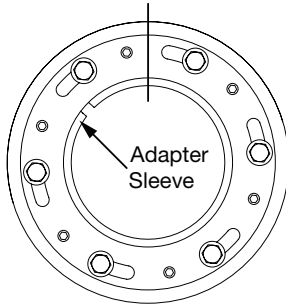

Figure 2. Mark face of external nut and adapter.
- Important: Mark a line on the adapter and external nut to be used as a location reference, see Figure 2. This is a critical point and represents the location of the nut assembly before the hex head bolts are tightened.